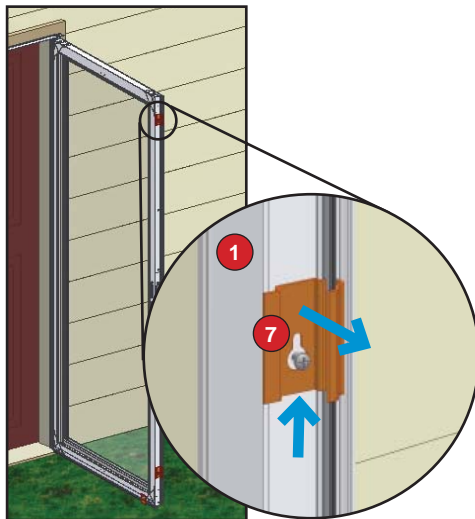

Figure 15
2. Remove spacer clips by loosening screws, and then slide clip up and pull away from door to remove clip. (Figure 15)